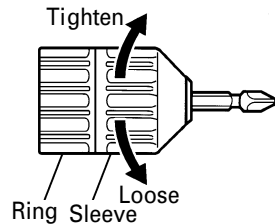

Fig. 10
- (1) After inserting a driver bit, etc. into the keyless drill chuck, firmly grasp the ring and tighten the sleeve by turning it toward the right (in the clockwise direction as viewed from the front) (See Fig. 10). If the sleeve becomes loose during operation, tighten it further. The tightening force becomes stronger when the sleeve is tightened additionally.
- (2) Dismounting the bit